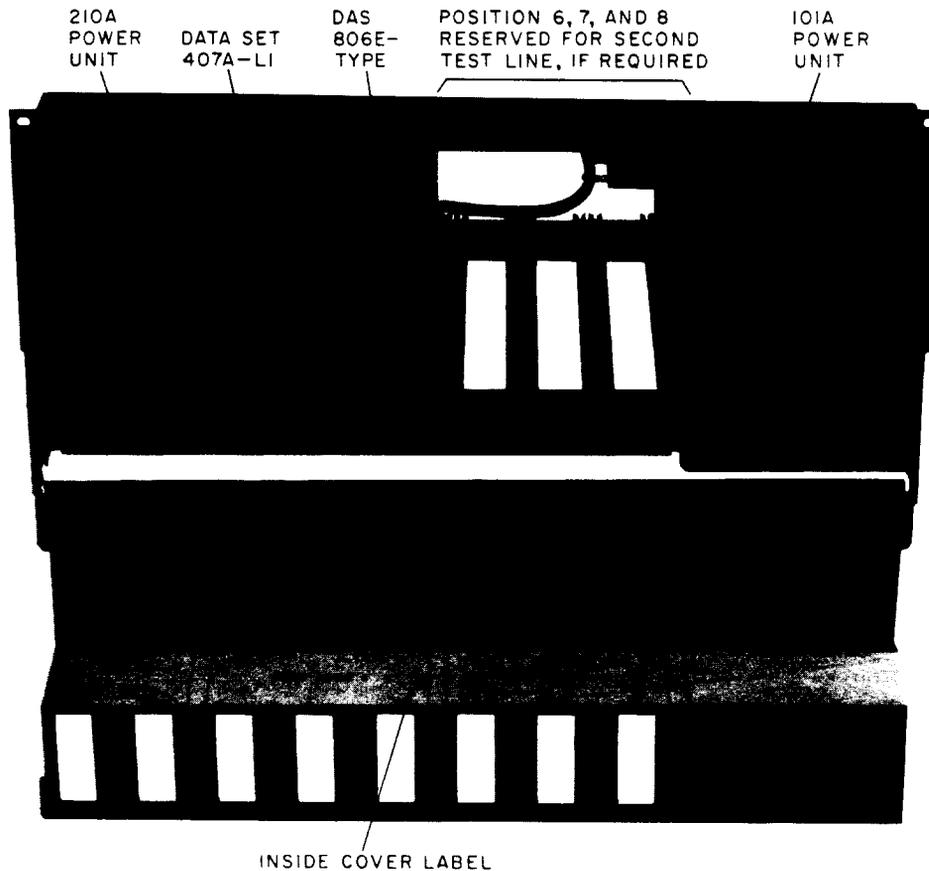

Fig. 3— 1A TTLS—Front Cover Lowered
- 9 Install the 210A power unit in positions 1 and 2 of the data mounting per Fig. 3.
- 11 Insert the properly optioned data set in position 3 of the data mounting and the DAS in positions 4 and 5 (per Fig. 3).